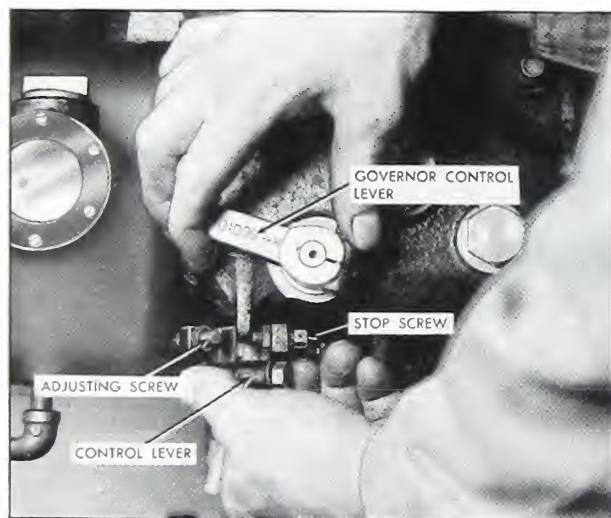

Fig. 5-154. Assembling constant speed fuel pump control lever
8. Hold the eccentric shaft down in position with a screwdriver and press against the eccentric shaft from inside the main housing. With the levers in this position, install the fuel control lever in the "OFF" position. Fig. 5-154.